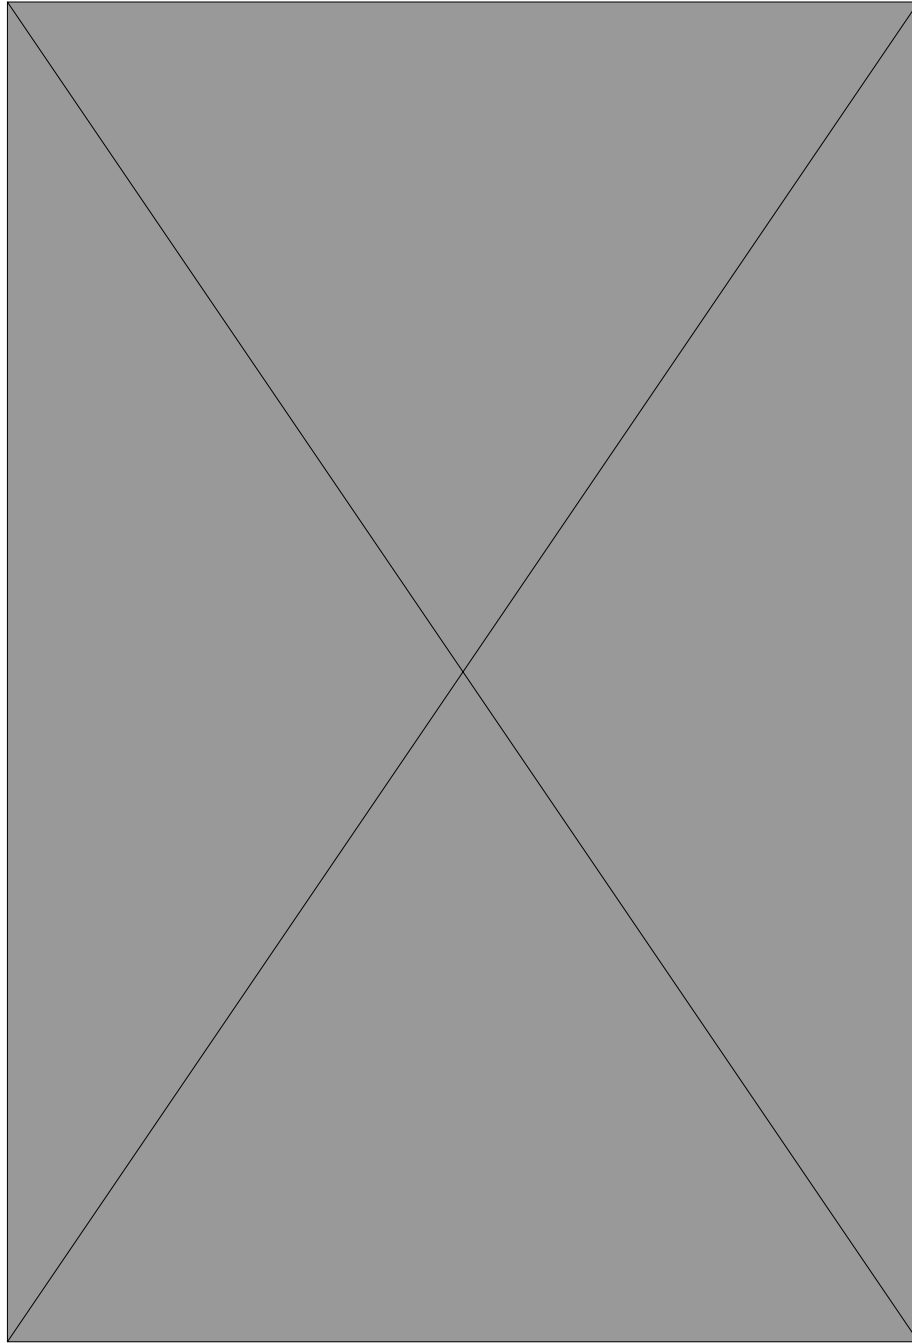
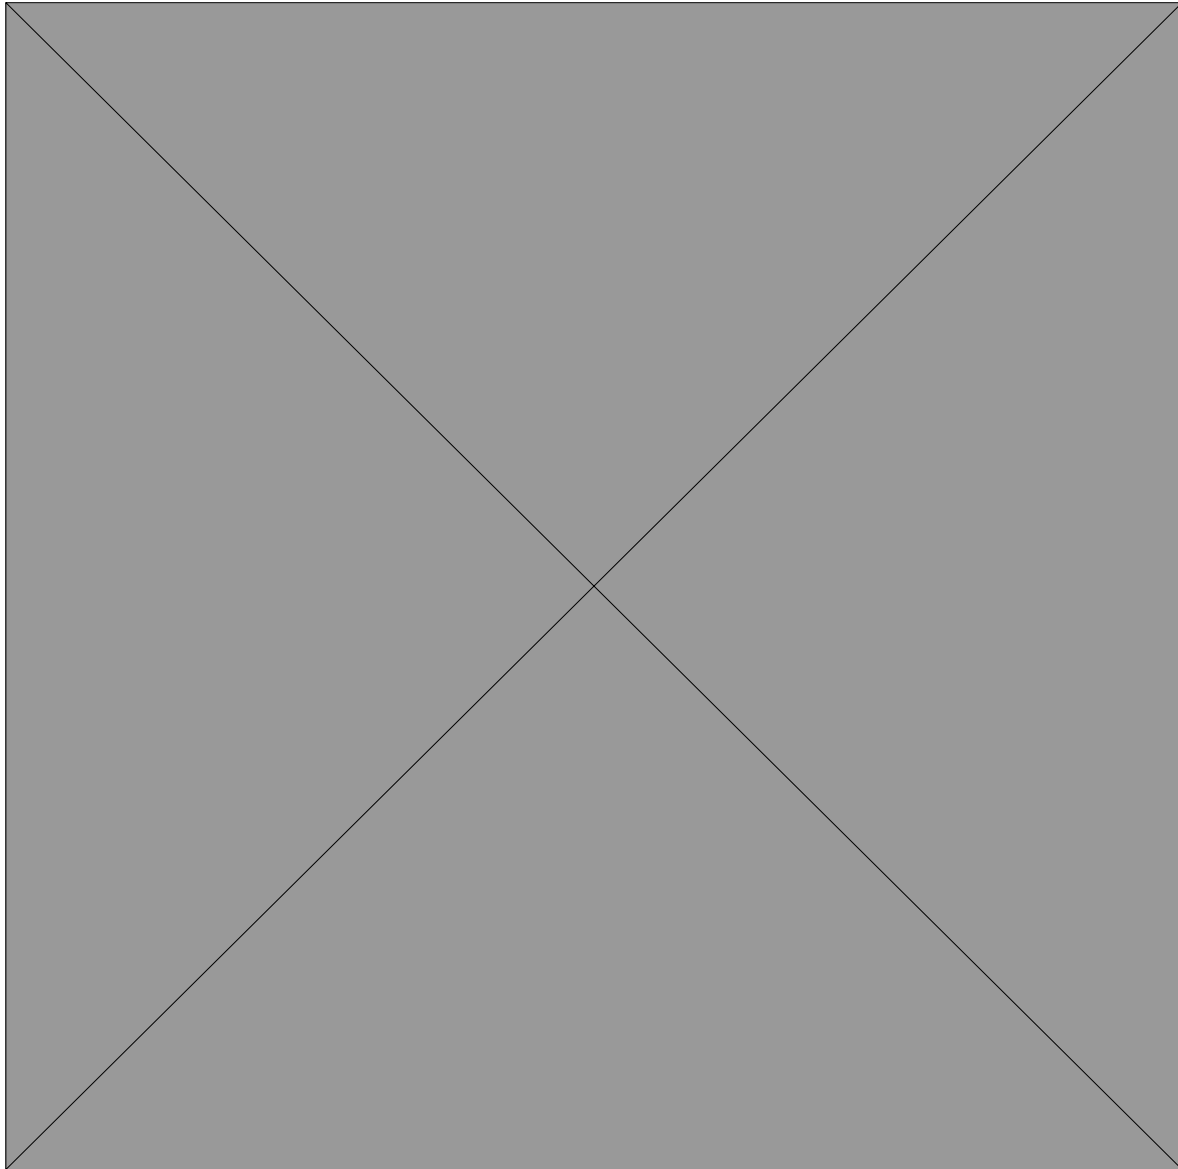

Figure 11: Loop-power sensor connection
Figure 13: Junction box interconnect wiring
1. Use wiring practices that conform to all national, state and local electrical codes. For proper safety as well as stable measuring performance, it is important that the earth ground connection be made to a solid ground point from Terminal 15. See Figure 11 on page 19.
In the two-wire configuration, a separate DC power supply must be used to power the instrument. The exact connection of this power supply is dependent on the control system into which the instrument connects. See Figure 11 on page 19 for further details. Any twisted pair shielded cable can be used for connection of the instrument to the power supply. Route signal cable away from AC power lines, adjustable frequency drives, motors or other noisy electrical lines. Do not run sensor or signal cables in conduit that contains AC power lines or motor leads.
Sensor connections are made in accordance with Figure 11 on page 19 or Figure 13 on page 22. The sensor cable can be routed into the enclosure through one of the cord grips supplied with the unit. Routing sensor wiring through conduit is only recommended if a junction box is used. Some loose cable is needed near the installation point so that the sensor can be inserted and removed easily from the flow cell.
Installations where the sensor is to be located more than 25 ft from the monitor (max. 100 ft) require the use of a junction box. The junction box is shown in Figure 13 and is supplied with two cable glands on the bottom of the enclosure.